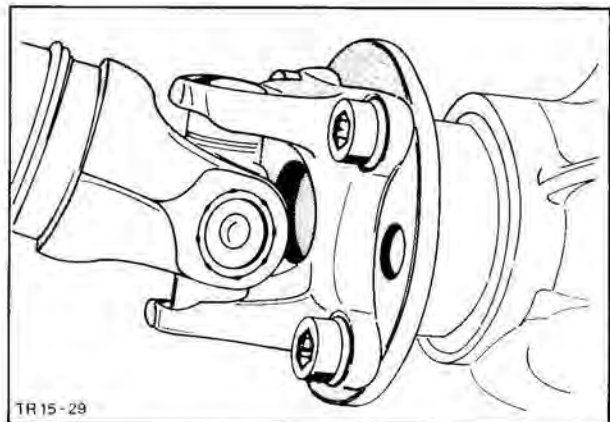

Fig. 138. Attach driveshaft to rear axle flange
7. Attach driveshaft to rear axle flange, Fig. 138.